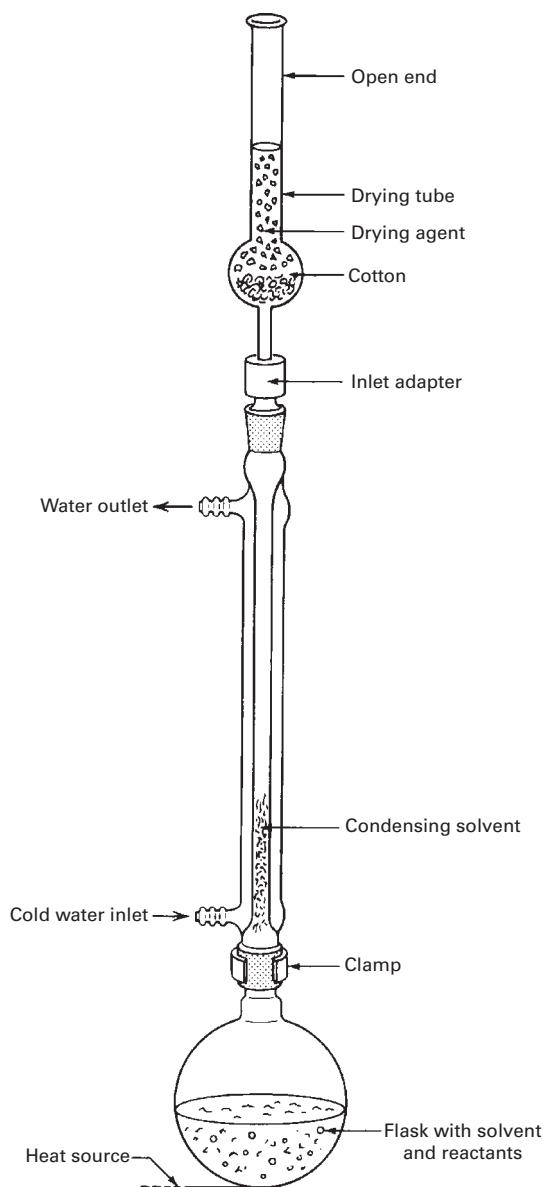

FIGURE 22.2 Reflux setup à la drying tube.
If you have to keep the atmospheric water vapor out of your reaction, you must use a **drying tube** and the **inlet adapter** in the reflux setup (Fig. 22.2). You can use these if you need to keep water vapor out of any system, not just the reflux setup.
3. Assemble the apparatus as shown in Fig. 22.2, with the *drying tube and adapter on top of the condenser*.